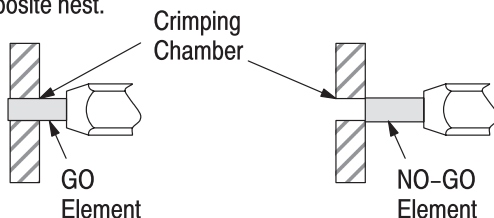

Figure 4
This inspection requires the use of a plug gage conforming to the dimensions provided in Figure 4. Tyco Electronics does not manufacture or market these gages. To gage the crimping chambers, proceed as follows:
3. Carefully insert GO element straight into the corresponding crimping chamber; do not force it. The GO element must pass completely through the crimping chamber. See Figure 4.
- Added NOTE to Figure 4